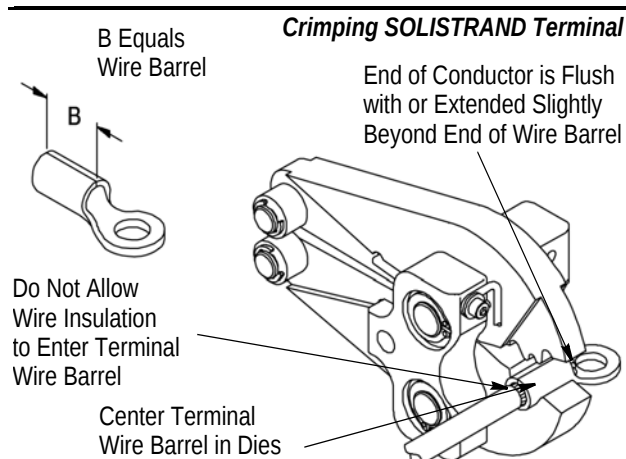
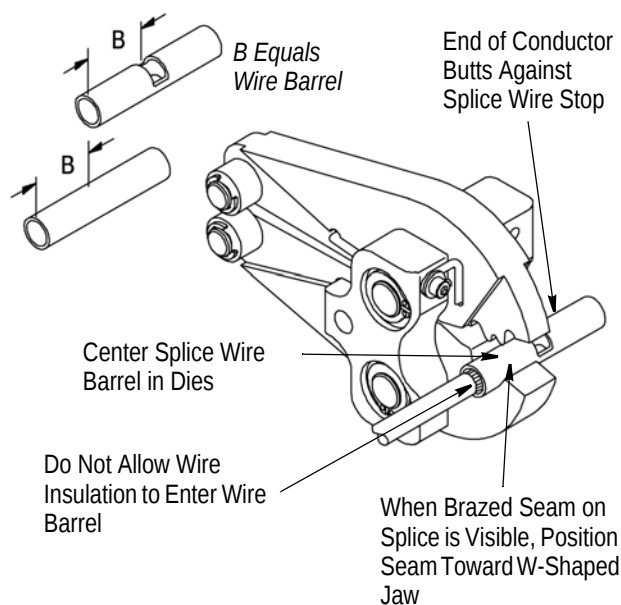

Figure 3
Figure 4
4. CRIMPING PROCEDURES (Figure 3 , Figure4, and Figure 5)
2. Open crimping jaws by squeezing the rollers simultaneously; then place the terminal or splice into the center of the appropriate crimping chamber. Use the correct crimp chamber for the specific wire size. Refer to Figures 3, 4, and 5.
4. Insert stripped wire, as shown in Figures 3, 4, and 5. DO NOT allow wire insulation to enter terminal or splice wire barrel.
To crimp the other half of a butt splice, reposition it in the crimping jaws and follow the procedures in Steps 1 through 5. If the splice cannot be turned, rotate the tool head. See Figure 4.